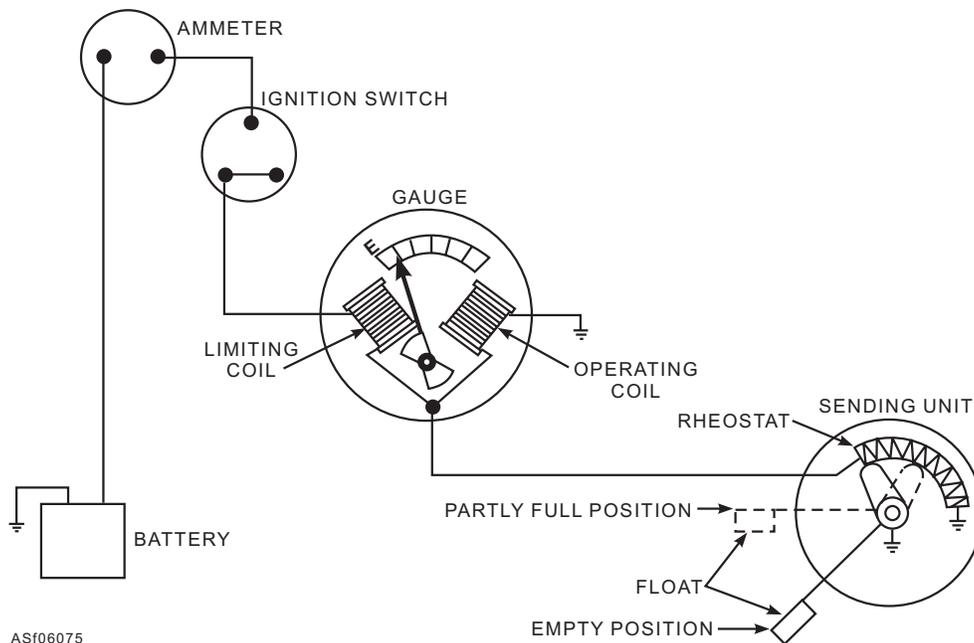

Figure 6-75.—Coil operated fuel gauge circuit.
**COIL-OPERATED FUEL GAUGE.**—The electrical circuit for a coil-type fuel gauge is shown in figure 6-75.